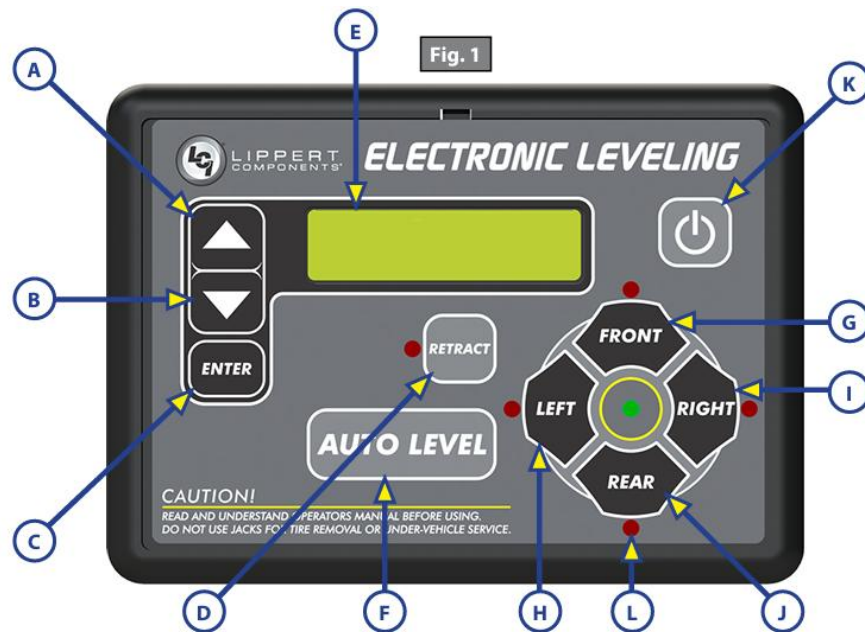

Figure 18. Lippert Level-up hydraulic system touch pad.
Always use a calibrated torque wrench to confirm proper torque according to the Maintenance Schedule. Do NOT under torque or over torque under any circumstance. Torque the nuts of all **mounting bolts** to 135 ft-lbs (location A in Fig. 18.) Torque the two **bearing bolt nuts** on the rotation head, location B in Fig. 18, to 80 ft-lbs.
- Using the Up and Down arrows (Figure 18 A & B, respectively) the following menu selections are available:
1. After disconnecting from your vehicle, locate the leveling touch pad on the unit (Figure 18) mounted at the front of the Off Door Side (Street Side) of the trailer.